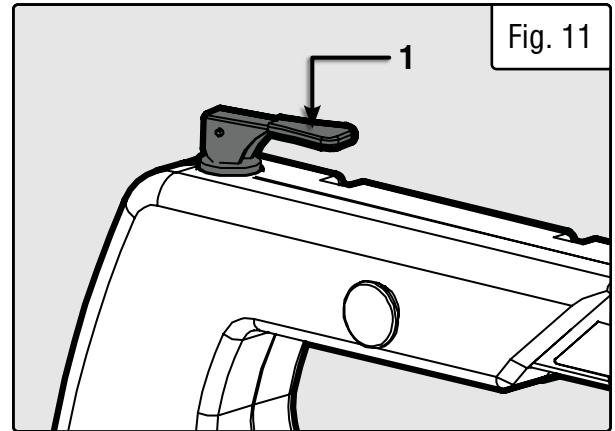

Fig. 11
1. To remove the blade, loosen the tension on it by lifting up the blade tension lever (Fig. 11 - 1). Turn the lever counterclockwise to loosen the blade holder if necessary.
3. Move the blade tension lever (Fig. 11 - 1) down and make sure the blade pin is properly positioned in the blade holders.